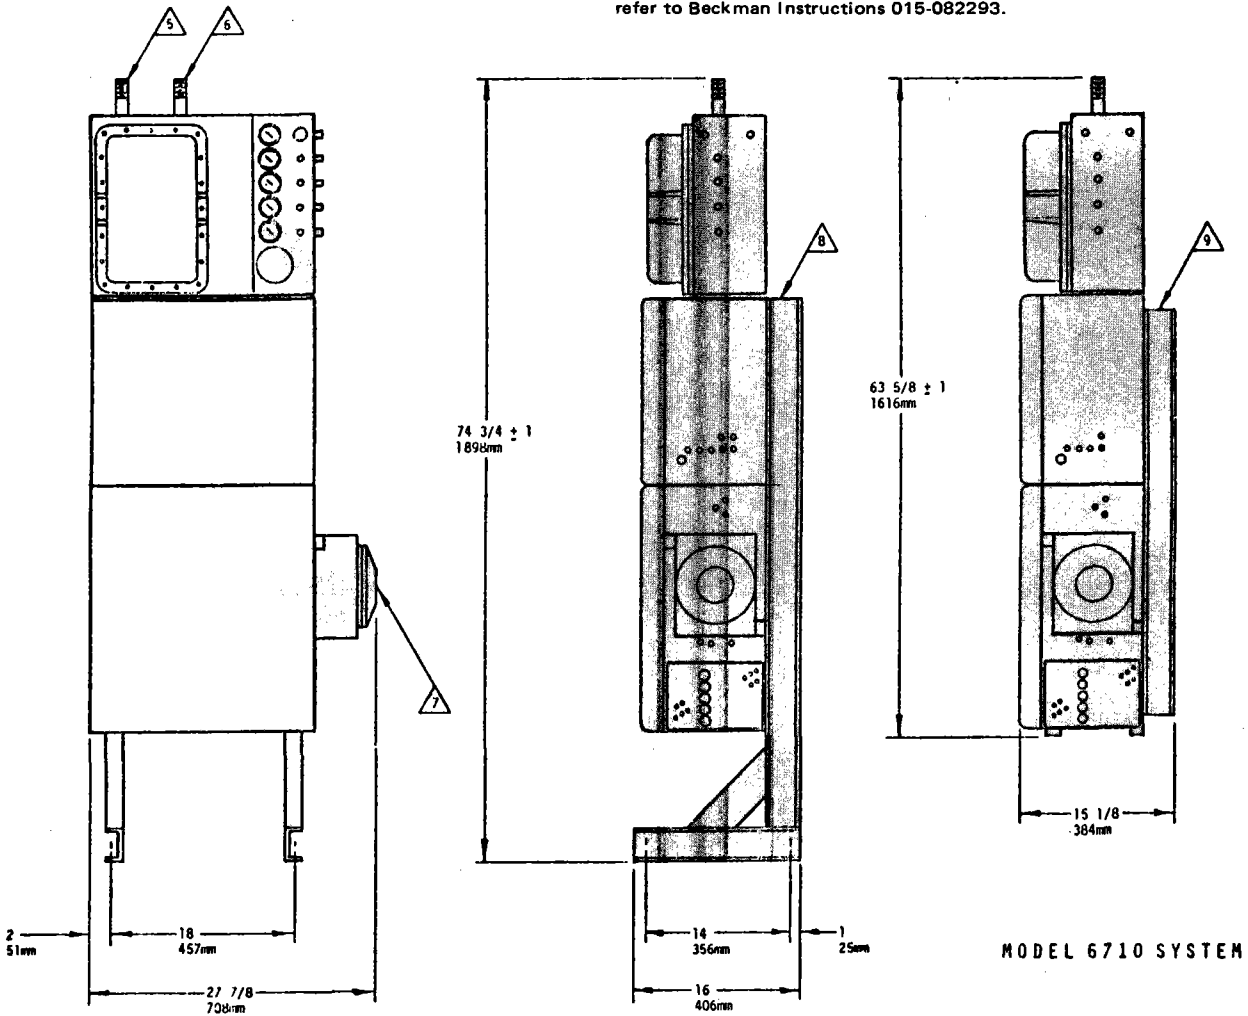
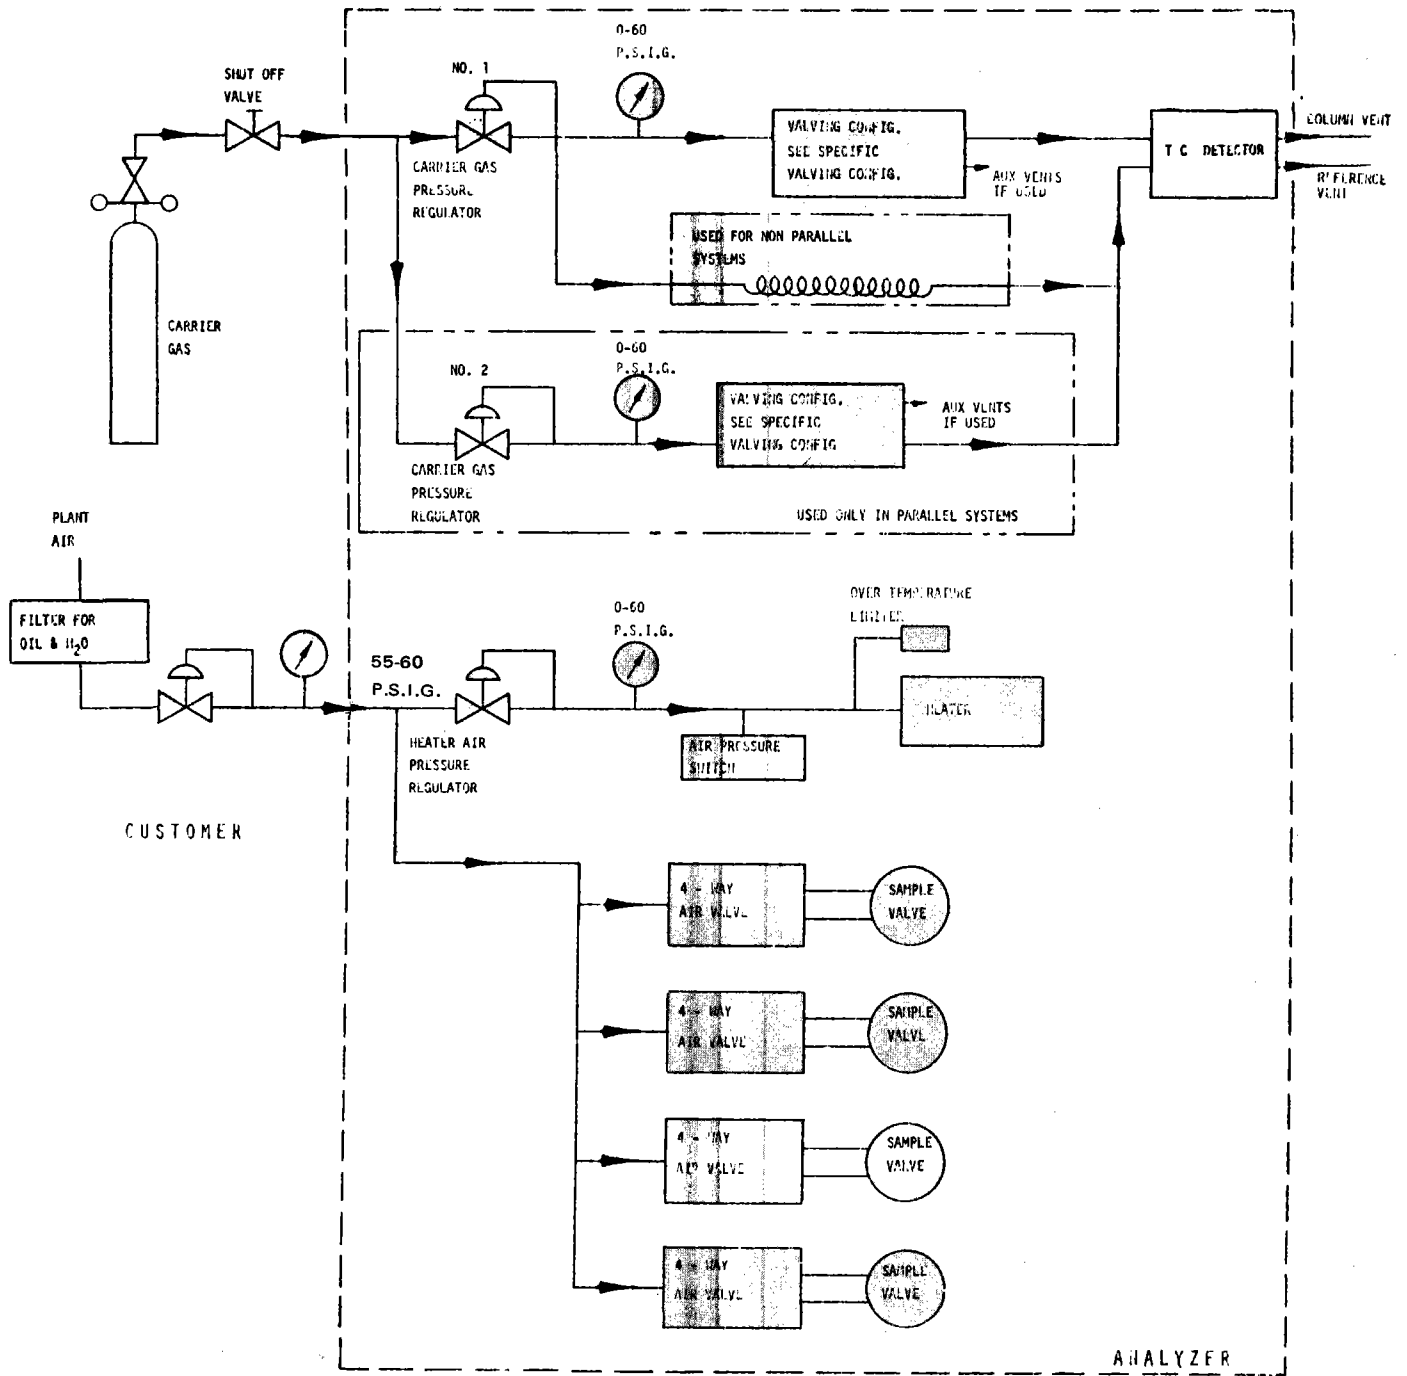
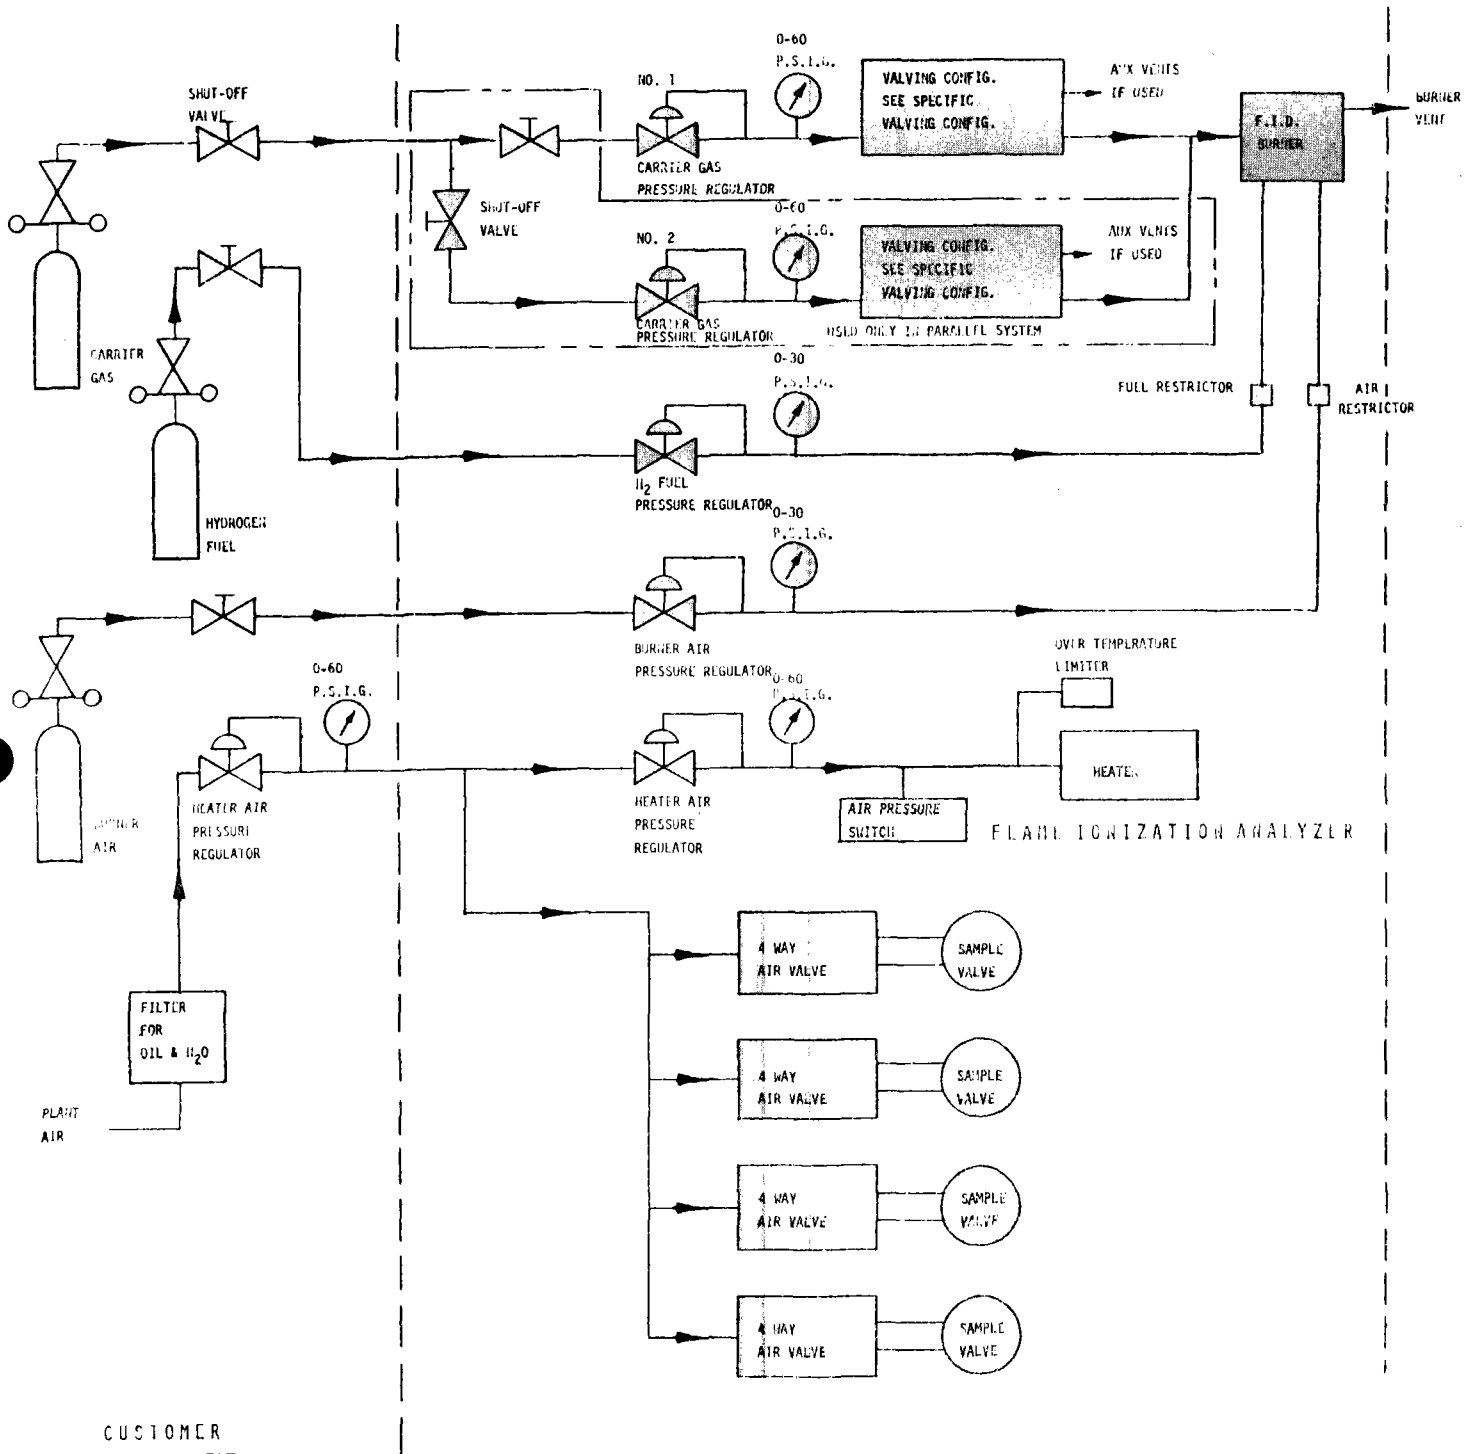

Figure 2-3. Outline and Mounting Dimensions of Sample-Conditioner/Analyzer Combinations
Figure 2-5. Flow Diagram of Analyzer with Thermal-Conductivity Detector
Figure 2-6. Flow Diagram of Analyzer with Flame Ionization Detector
- Sample-Conditioner/Combinations (*various optional and interconnection arrangements for sample conditioner and analyzer units*). Figure 2-3
For locations of gas inlet and outlet connections, refer to appropriate dimensional drawing: Figure 2-2, 640300 Analyzer; or Figure 2-3, Sample-Conditioner/Analyzer Combination. Refer also to schematic flow diagram appropriate to detector type: Figure 2-5, thermal-conductivity detector; or Figure 2-6, flame-ionization detector.